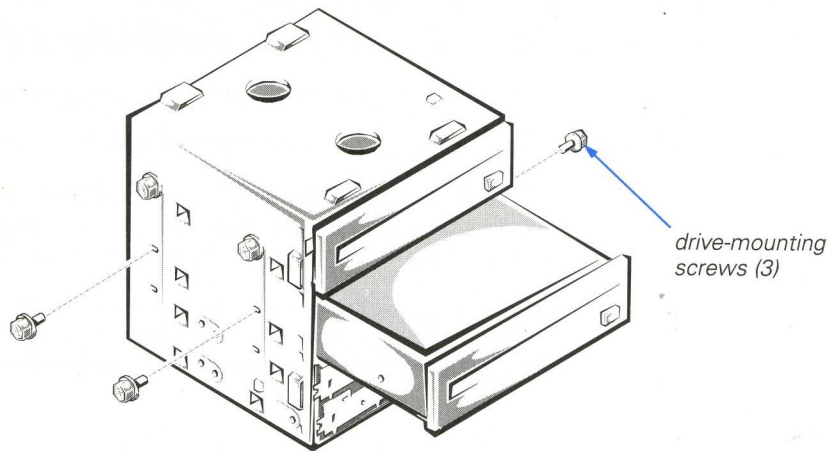

**Figure 3-7. Installing a 5.25-Inch Drive**
4. Slide the drive into its bay, and secure it to the drive cage with two screws on the left and one screw on the right (see Figure 3-7).